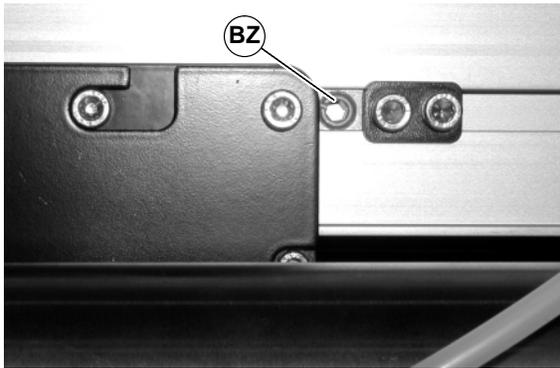

Figure 51
3. Rotate the tracking cam (BZ of Figure 51) in small increments, each time inspecting the belt as it exits